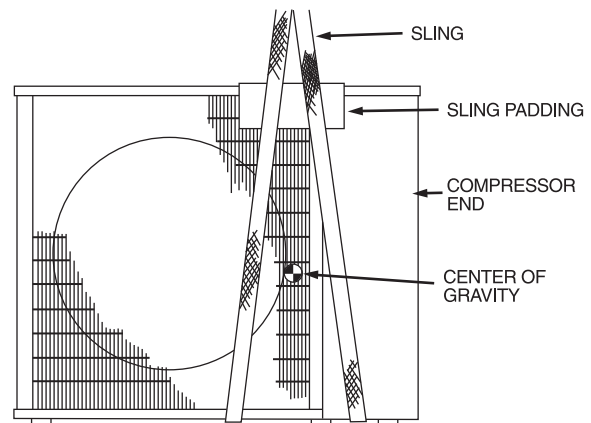

Fig. 13 - Lifting Unit with Sling
1. Rig the unit. Keep the unit upright and lift using a sling. Use cardboard or padding under the sling, and spreader bars to prevent sling damage to the unit. See Fig. 13. See Fig. 2 for center of gravity reference